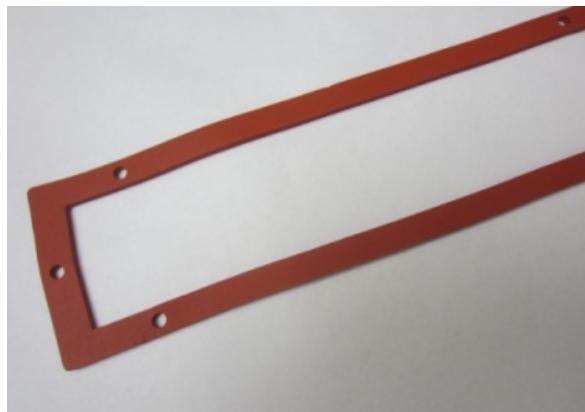

Figure 6-12-2
19. Check the UV Module Plate Gasket for cracks or deterioration (Refer to Figure 6-12-2). Replace if needed. Refer to Page 6-41 for instructions on replacing.